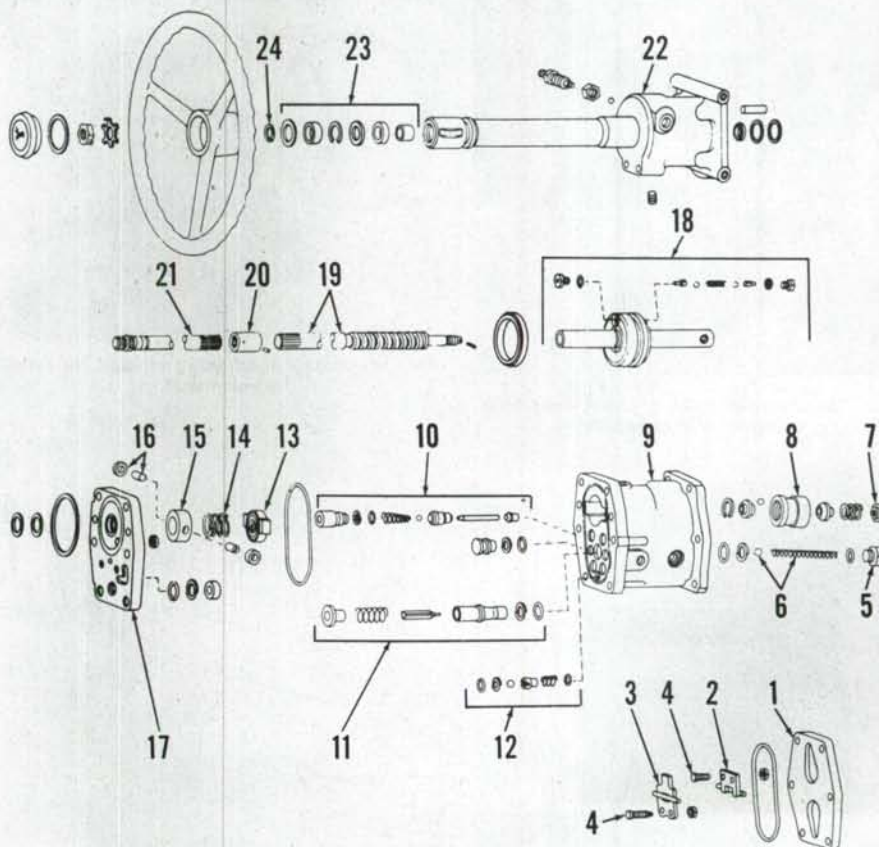

Fig. 11—Exploded view of steering valve assembly showing component parts. No mechanical linkage exists between steering valve and steering bellcrank.
11. OVERHAUL. To disassemble the removed steering control units, first remove lower cover (1—Fig. 11), cotter pin and nut (7); then unbolt and re-
Remove operating shaft nut (13—Fig. 11) and slide spring (14) and piston rod collar (15) from shaft. Turn steering wheel shaft to the left to force off cylinder cover (17). Steering shaft (21) is retained in steering column by snap ring (24). Remove shaft if service on oil seal and bushing (23), shaft or housing is indicated.
as shown in Fig. 13. Tighten spring loaded nut (13—Fig. 11) until a gap of approximately 5/16 inch exists between nut and collar (15). This tension provides the friction which gives a feeling of stability to the steering effort. End plugs for operating levers (2 & 3) should be adjusted to provide not more than 0.003 end play, but so levers will not bind. Tighten jam nuts securely when adjustment is correct. Tighten nut (7) to a torque of 5 ft.-lbs., loosen to nearest castellation and install cotter pin. Collar (8) must turn freely by hand but must have no end play.
screws (4—Fig. 11); then using a dial indicator, adjust upper left and lower right adjusting screws to a clearance of 0.0025-0.0035. With the first screws adjusted, turn remaining two screws to a clearance 0.001-0.002 less than first clearance.